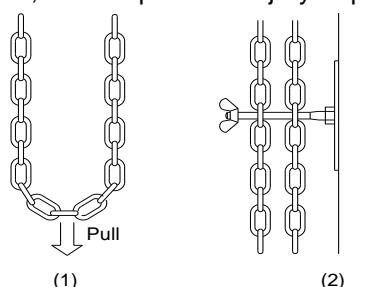

Fig.12
- You can open or close the door manually by operating the hand chain, disconnects the door operator from the electricity supply. This time, the close indicator light on the control box will flash, and after actuation of the hand chain, the operator may not work when you press the button, please pull the hand chain see Fig.12 (1), a reset is carried out and the operator is switched on electrically. The close indicator light turns off.
- It is essential to screw the hand chain firmly in place as shown in Fig.12 (2).